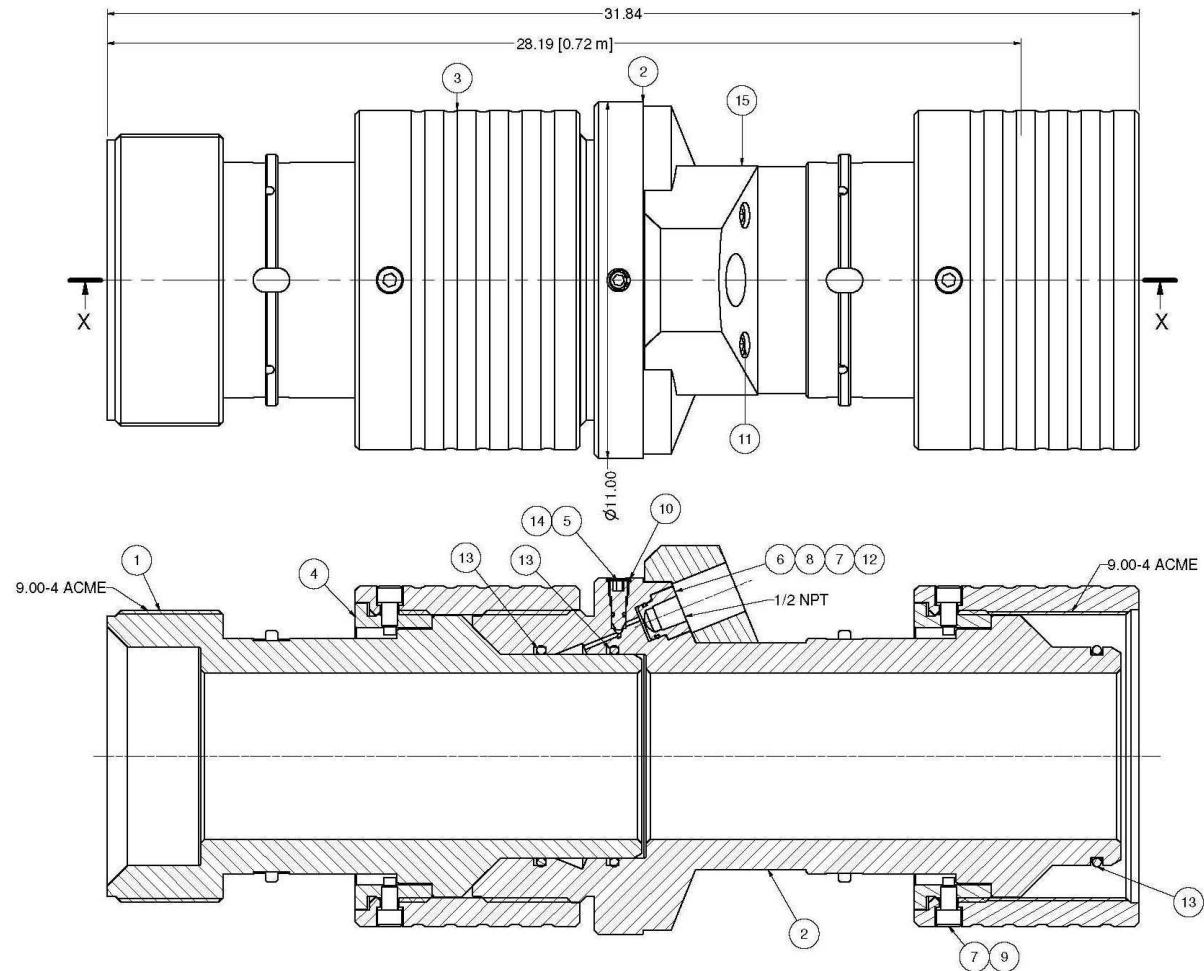

Figure 6 : Assembly Drawing
Note 1: Thread protectors (items 100 and 101) not shown on Assembly Drawing (Figure 6)